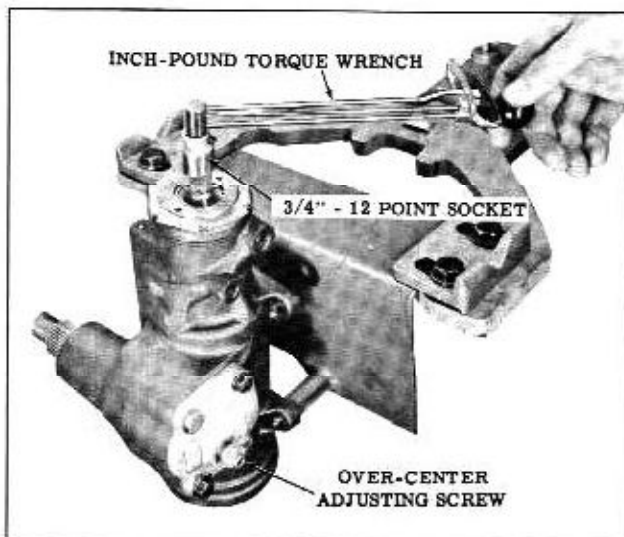

Fig. 4-34 Checking Over-Center Preload
- c. Rotate the lower shaft from one stop to the other to count the number of turns and locate the center of travel, then check the combined ball and thrust bearing preload by rotating the torque wrench through the center of travel. (Fig. 4-34) Note the highest reading.